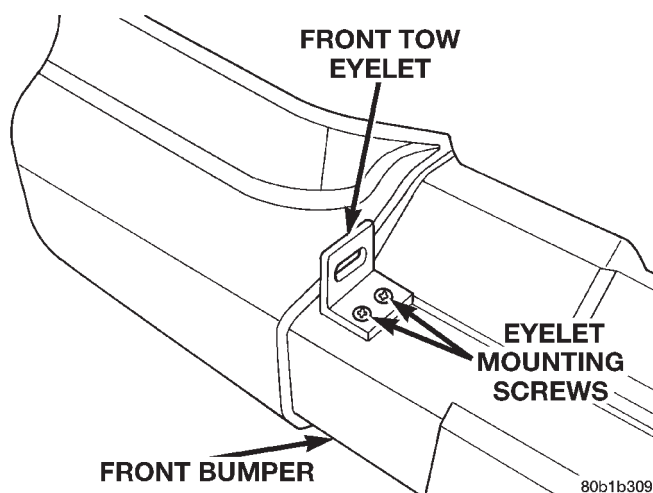

Fig. 1 Emergency Toe Eye
- (1) Remove the emergency toe eye cover.
- (2) Remove the emergency toe eye attaching bolts (Fig. 1).